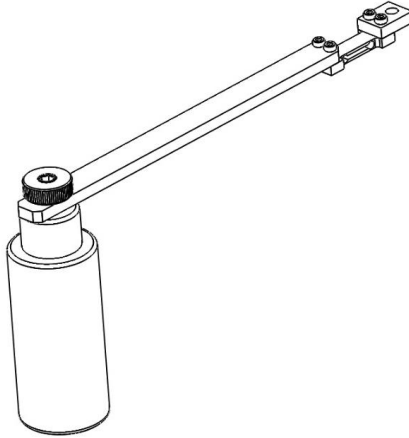

Figure 6: Buoyancy Sample Attached to Cap
5. Thread the buoyancy sample onto the cap. See Figure 6: